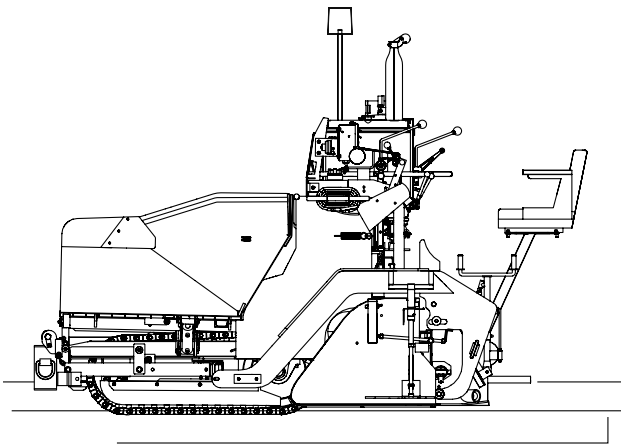

Figure 4-17. Paver On Transport
1. Position paver on trailer centered from side to side (**Figure 4-17**).